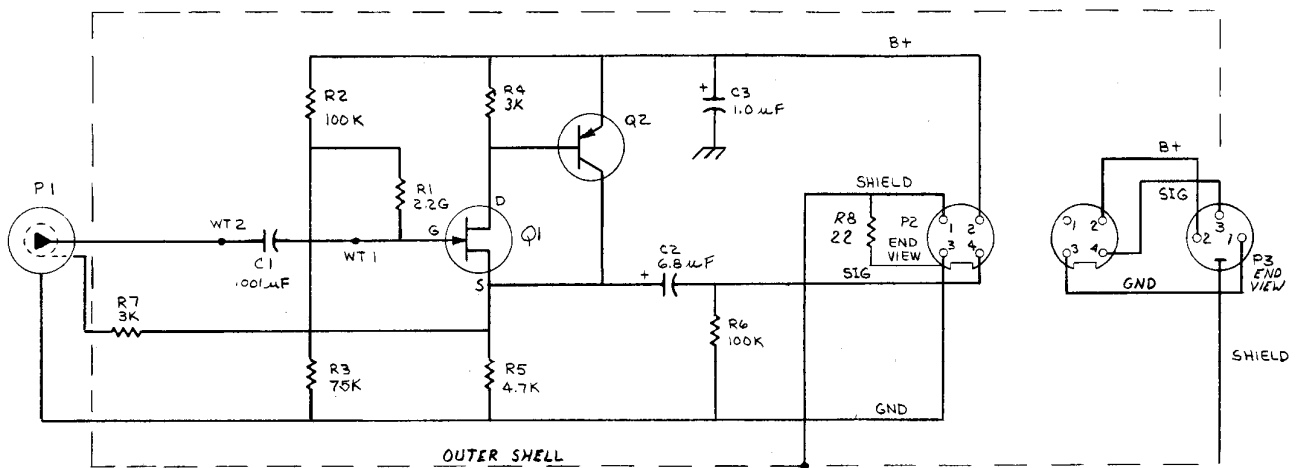

Figure 6-4. Schematic circuit diagram for the 1972-9600 Preamplifier/Adaptor.
An inexpensive interface between a GR ceramic or electret microphone and the measuring instrument is the 1972-9600 Preamplifier/Adaptor (Figure 6-1). This simple, easy-to-use preamplifier is designed to satisfy less-demanding requirements than those met by the 1560-P42 Preamplifier: It has reduced output voltage and current capabilities, offers only unity gain, and does not supply the polarizing voltage required to operate condenser microphones. In effect, the 1972-9600 serves as an impedance converter for ceramic microphones and vibration pickups. It provides a nominal input impedance of  $2.2\text{ G}\Omega$  in parallel with less than  $3\text{ pF}$ . It has an output impedance of approximately  $10\text{ }\Omega$ . The schematic diagram is given in Figure 6-4.
- c. The voltage at the FET (Q1) source should be half the supply voltage plus a few tenths of a volt, as shown in Table 6-1. If it is not, the FET or Q2 or a related component is probably defective. Do not measure the gate voltage on Q1 (high impedance). The voltage at TP1, Figure 6-4, should be half of the supply voltage.